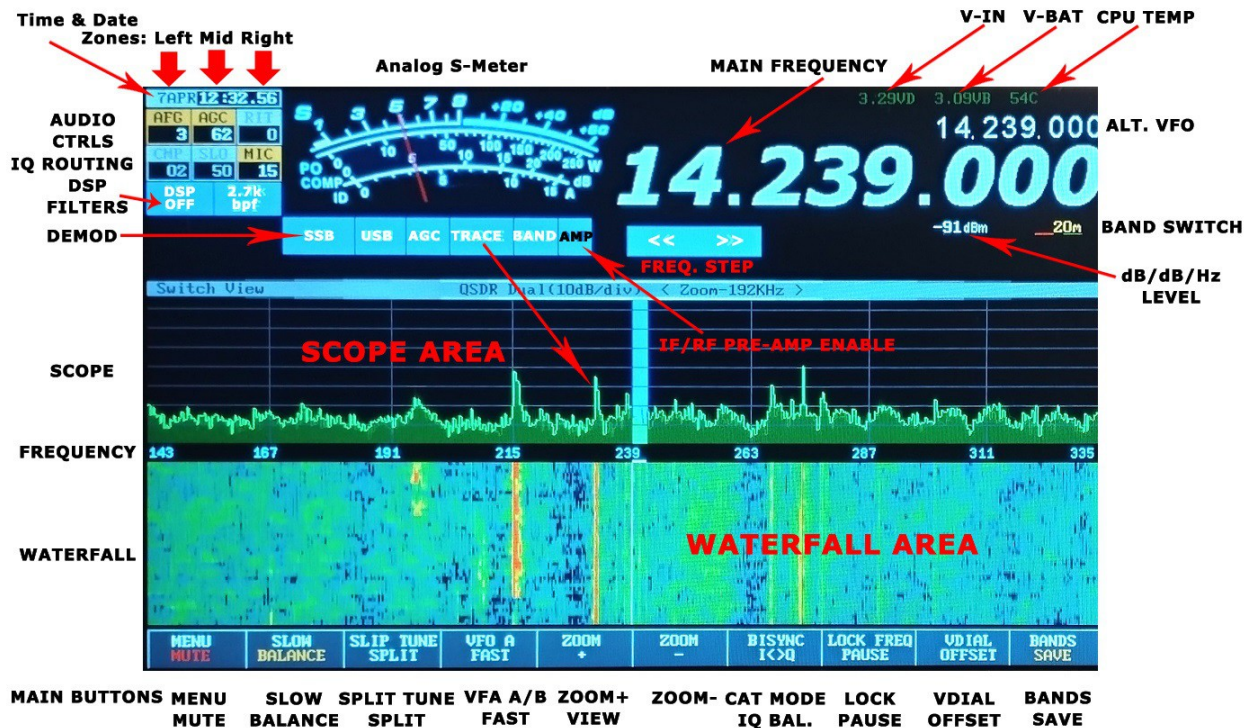

Figure 4: The main screen (annotated) with the SPLIT function deactivated.
- **Main Frequency Display:** This may be displayed either as a single frequency (transmit/receive as in **Figure 4**) or as a “Split” display showing both frequencies with separate transmit and receive frequencies. If the numbers in this display are **grey** the “Frequency Lock” (configured in the menu) is active. If this display is **yellow**, a transverter offset has been configured.